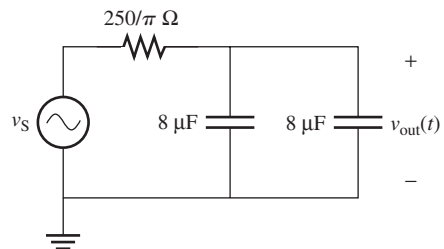

FIGURE P7.46 Circuit for Problem 7.46.
7.46 (A)* Determine the transfer function for the circuit in Figure P7.46. Then, use MATLAB to plot the Bode plot for the circuit.